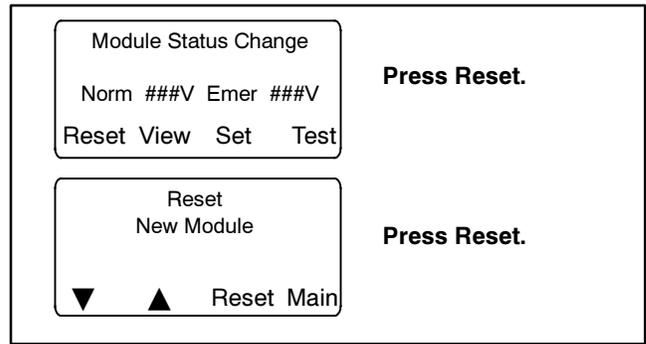

Figure 3-21 Screens after Module Connection
Installing or reconnecting one or more accessory modules triggers the Module Status Change message. See Figure 3-21. Press the Reset button to display Reset New Module. Press the Reset button from that screen. The controller recognizes the module type(s). See Figure 3-22.
8. Close the enclosure door and reconnect power to the ATS. The display will show *Module Status Change*. See Figure 3-21.